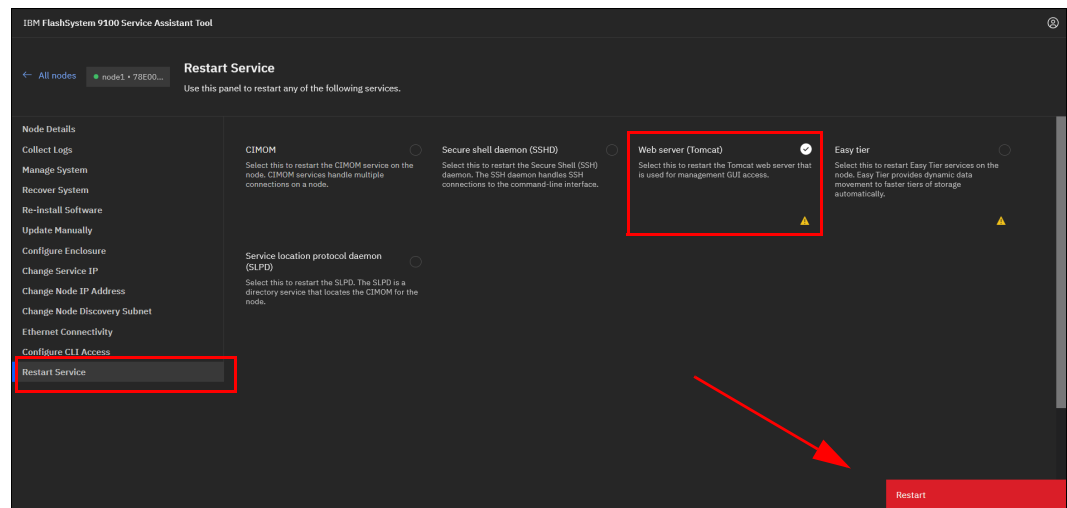

Figure 4-139 Restarting the Tomcat web server
4. After the process completes, the Restart option appears, as shown in Figure 4-139.